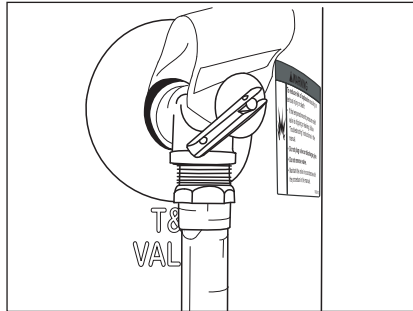

Figure 13 - The T&P Relief Valve discharge pipe must be installed properly and piped to an adequate drain.
**2** The discharge pipe must withstand 250°F/121°C without distortion. Use only copper or CPVC pipe. Most homes use copper water pipes, but some use CPVC or cross-linked polyethylene (PEX). Use fittings appropriate for the type of pipe in your home. Do not use any other type of pipe, such as PVC, iron, flexible plastic pipe, or any type of hose (Figure 13).